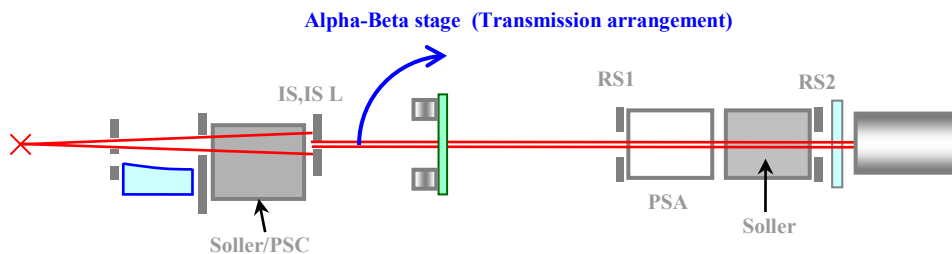

**Fig. 2.1** Setting the slits and Soller slits (Transmission method)
**CAUTION:** Figure 2.1 shows the medium resolution parallel beam/RS optics, which may differ from the current optics.
- (2) Switch the Alpha-Beta stage to the transmission arrangement.